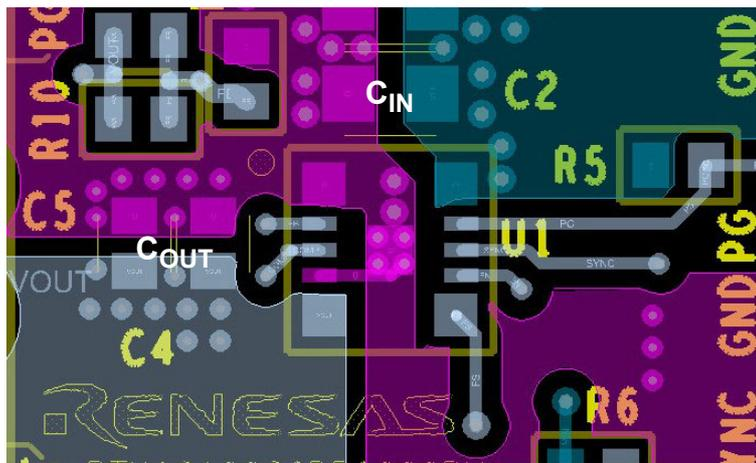
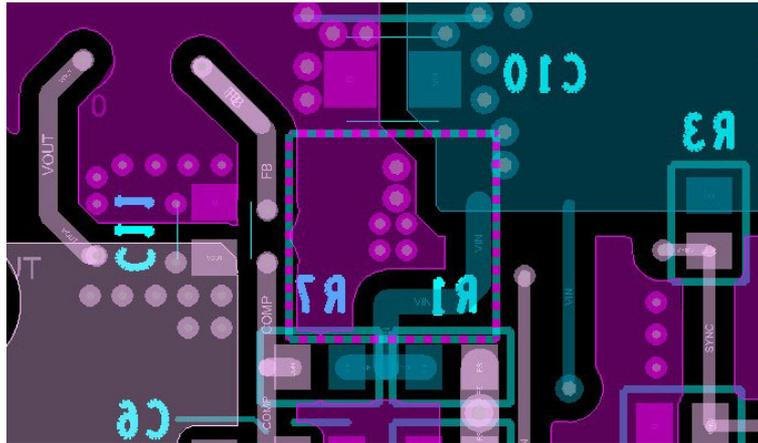

Figure 37. Layout Example - Top Layer
Figure 38. Layout Example - Bottom Layer
- Place the input ceramic capacitors as close as possible to the module input. These ceramic capacitors minimize the high frequency noise by reducing the parasitic inductance of the power loop. Proper placement of these capacitors not only leads to less PHASE node spikes and ringing, but also minimizes the switching noise coupled to the module. Renesas recommends using dielectric X5R or better with a minimum total capacitance of 22 $\mu$ F at the module input. A layout example is shown in Figure 37 and Figure 38.